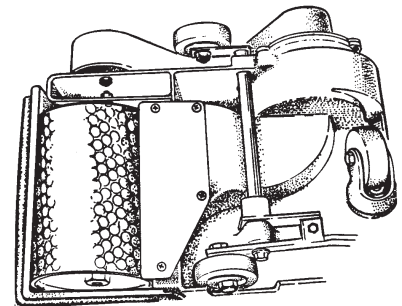

Figure 12b
- 5 Align the dust shoe with the drum and tighten screws. See Figure 12b.